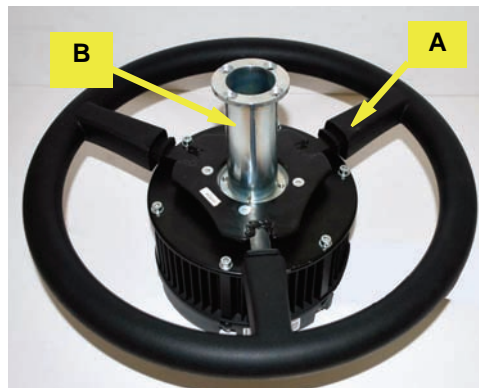

Figure 2b: Inserting shaft adapter into steering wheel
b. Place the VSi steering wheel **A** on a clean surface with the wheel facing up. Insert shaft adapter **B** into steering wheel **A** (Figure 2b).